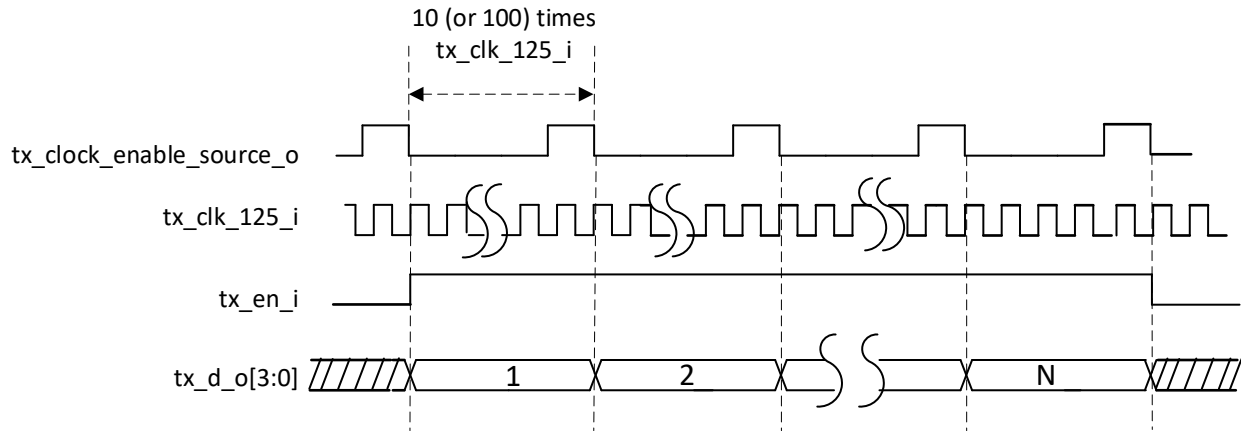

Figure 2.2. SGMII TX-Side Signals Relationship
1. Connect tx\_clock\_enable\_sink\_i to tx\_clock\_enable\_source\_o. Relationships between TX-side signals are shown in Figure 2.2.